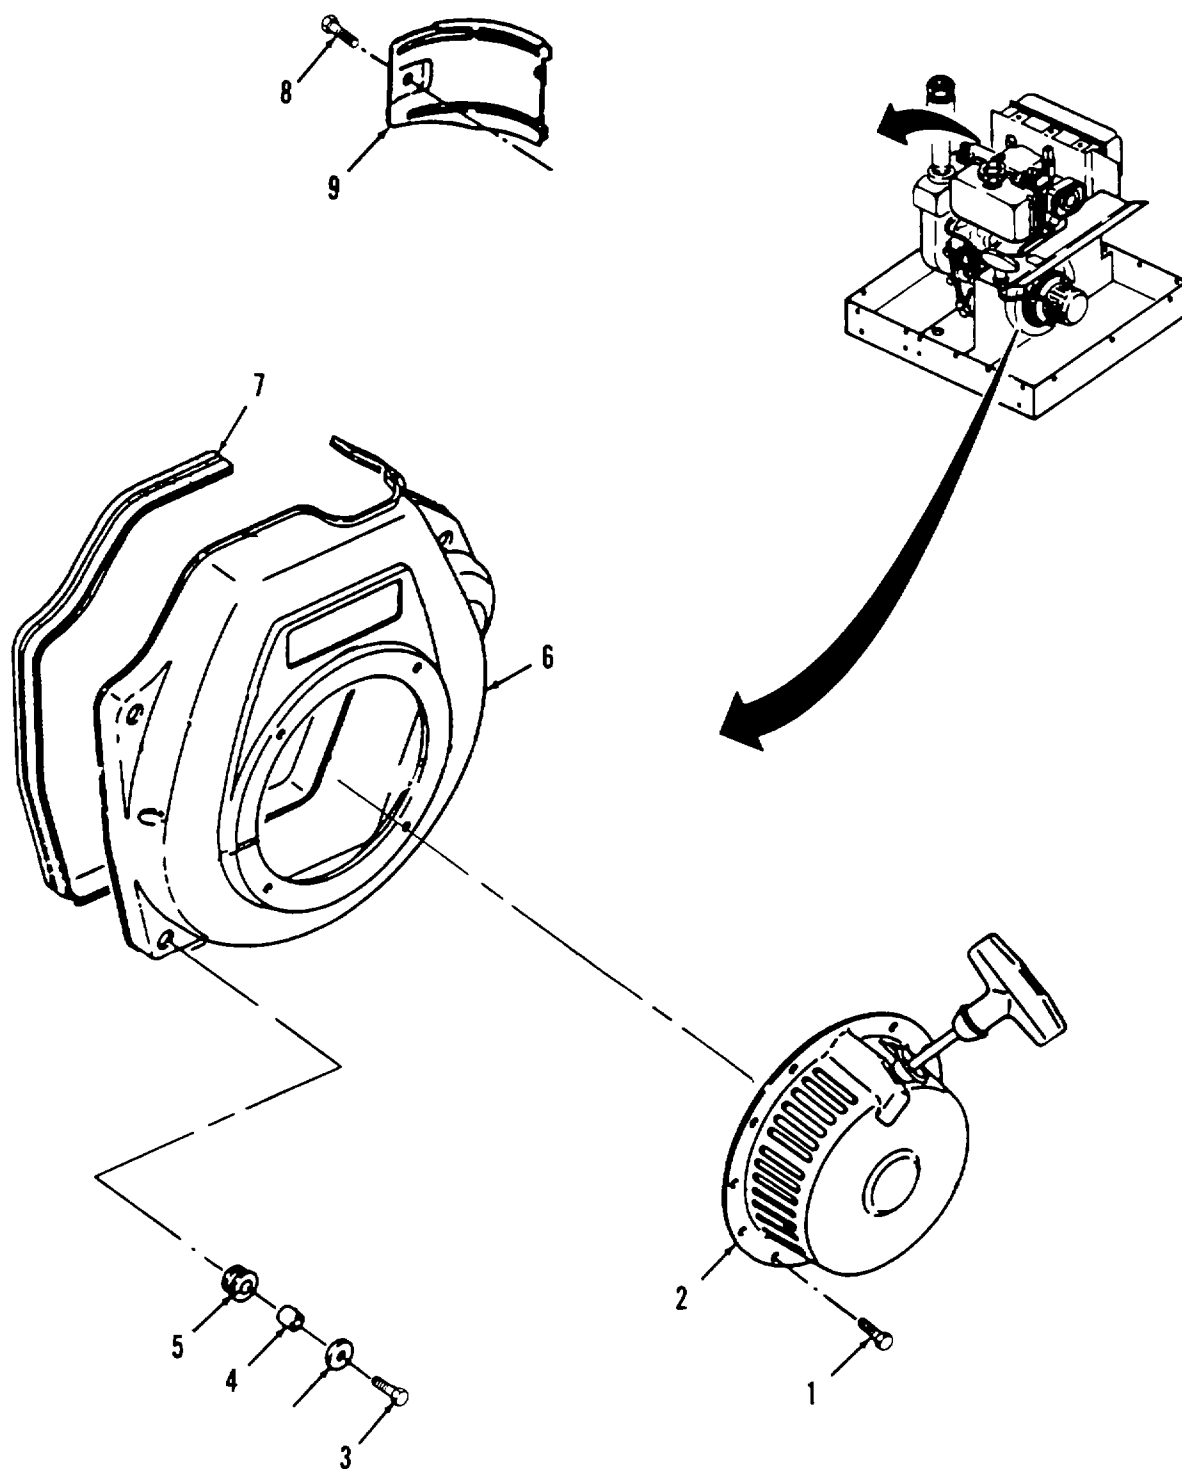

Figure 4-25. Recoil Starter and Fan Cooling Case Repair and Replacement.
a. Removal (Refer to Figure 4-25).
- (1) Remove four bolts (1).
- (2) Remove the recoil starter assembly (2) as a self-contained unit.
- (3) Remove four bolts (3), four washers (4), four collars (5), and four rubber cushions (6).
- (4) Remove cooling fan case (7) and seal (8). Discard seal.
- (5) Remove screw (8) and cover (9).